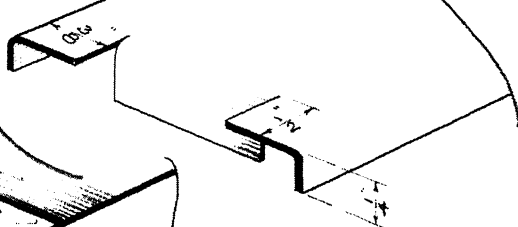

FIG. 2
5. Make the four  $\frac{1}{2}$  inch deep cuts in the lid with a jeweler's saw before bending (Fig. 2).